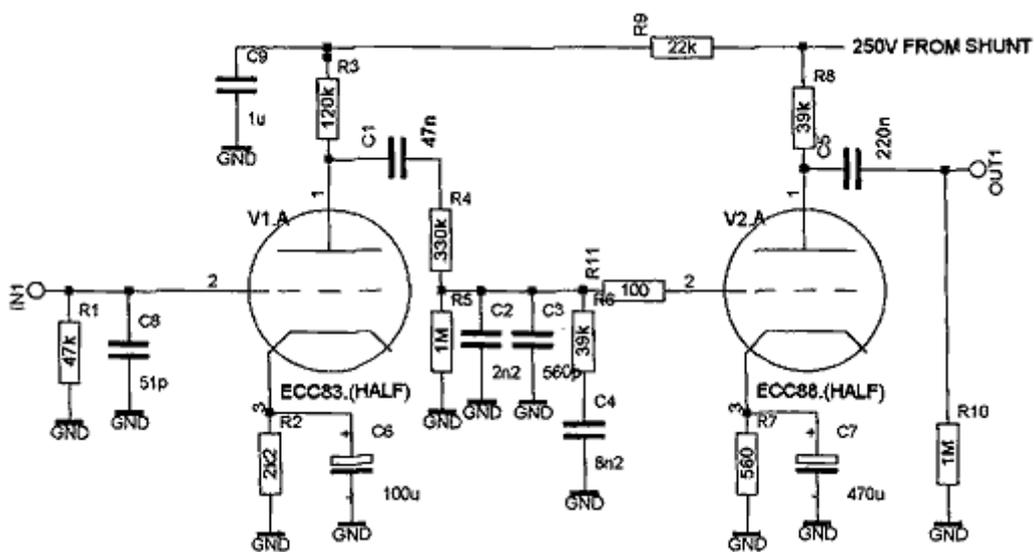
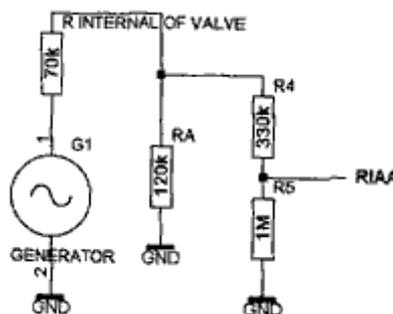

Figure 2.
Figure 4.
This, of course, calls for action. What I came up with is in figure 2. First, R3 has gone up to 120k to allow the ECC83 more 'breathing space' (it will act more linearly). This, plus changing R5 to a higher value to avoid unnecessary attenuation, implies a recalculation of R4 to 330k. I have retained the capacitor values of the original RIAA. V2 has become an ECC88. A grid stopper R11 was added to prevent spurious oscillation and R7, R8, C7 have been altered to suit the new valve. The ECC88 differs in pin-out from the ECC82 in that it wants 6.3 V of heater voltage between pins 4 and 5, not the 12.6 V meant for the ECC82. A 5 W 18 ohms resistor in series with the 88's heater will solve this problem (10 ohms in case you decide to use the very good sounding Svetlana 6N1P). Pin 9 (screen between triode halves) can be grounded.
Be aware that the input (series) resistor of the RIAA in a practical network is the result of the ideal input series resistor as given in RIAA calculations and a few associated ones like the internal  $R_i$  of the valve, its external anode resistor  $R_a$  (R3 in my schematics) and the grid leakage resistor of V2 (R5 in my schematics). I have drawn the situation in figure 4. The  $R_i$  of an ECC83 is about 70 k, you'll find this in data books, or in datasheets on the web.  $R_i$  and  $R_a$  are electrically in parallel, which gives 44 k. Add this to R3, which makes 374 k and parallel this value with R5. The resulting 272 k is then the net value for the RIAA calculation. For ultimate precision the Miller capacitor in V2 (40 pF in the configuration of fig.2) must be added to C2 when the values are entered in a RIAA calculation.
The RIAA equalization of figure 2 (or 3) is within 0.05 dB exact between 100 Hz and 50 kHz, and rises slowly to +0.3 dB at 20 Hz. The original gain of the P-2 with its volume control set to max was 50 dB, my circuit of figure 2 still arrives at a healthy 42 dB. Noise of my circuit is -80 dB CCIR/RMS ref. 5 mV input with a selected low-noise ECC83 (most ECC83s are pretty silent, selecting them is no must), which is a 11-14 dB improvement over the original situation!